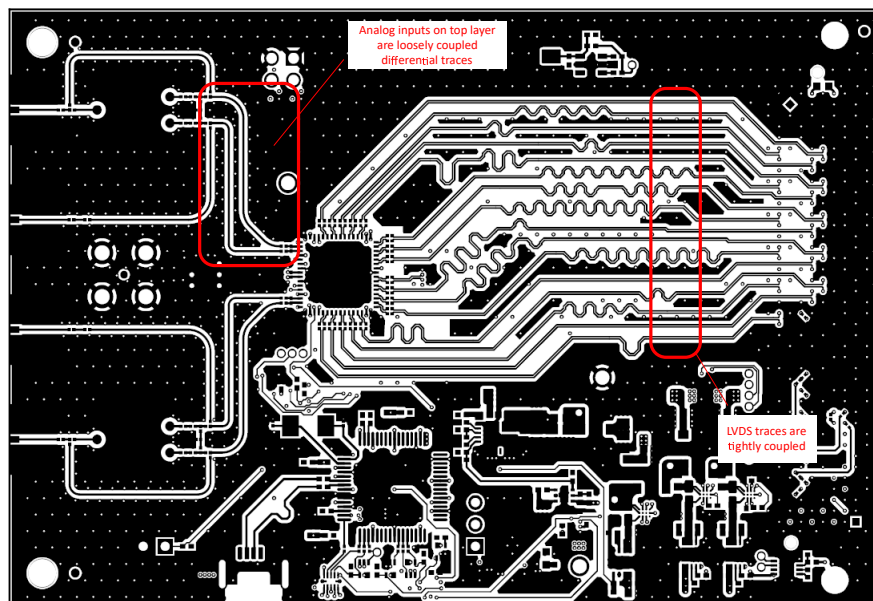

Figure 8-11. Layout example: top layer of ADC366x EVM
- The input signal traces are routed as loosely coupled, differential signals on the top layer avoiding vias. Figure 8-11 shows the layout example of the top layer.